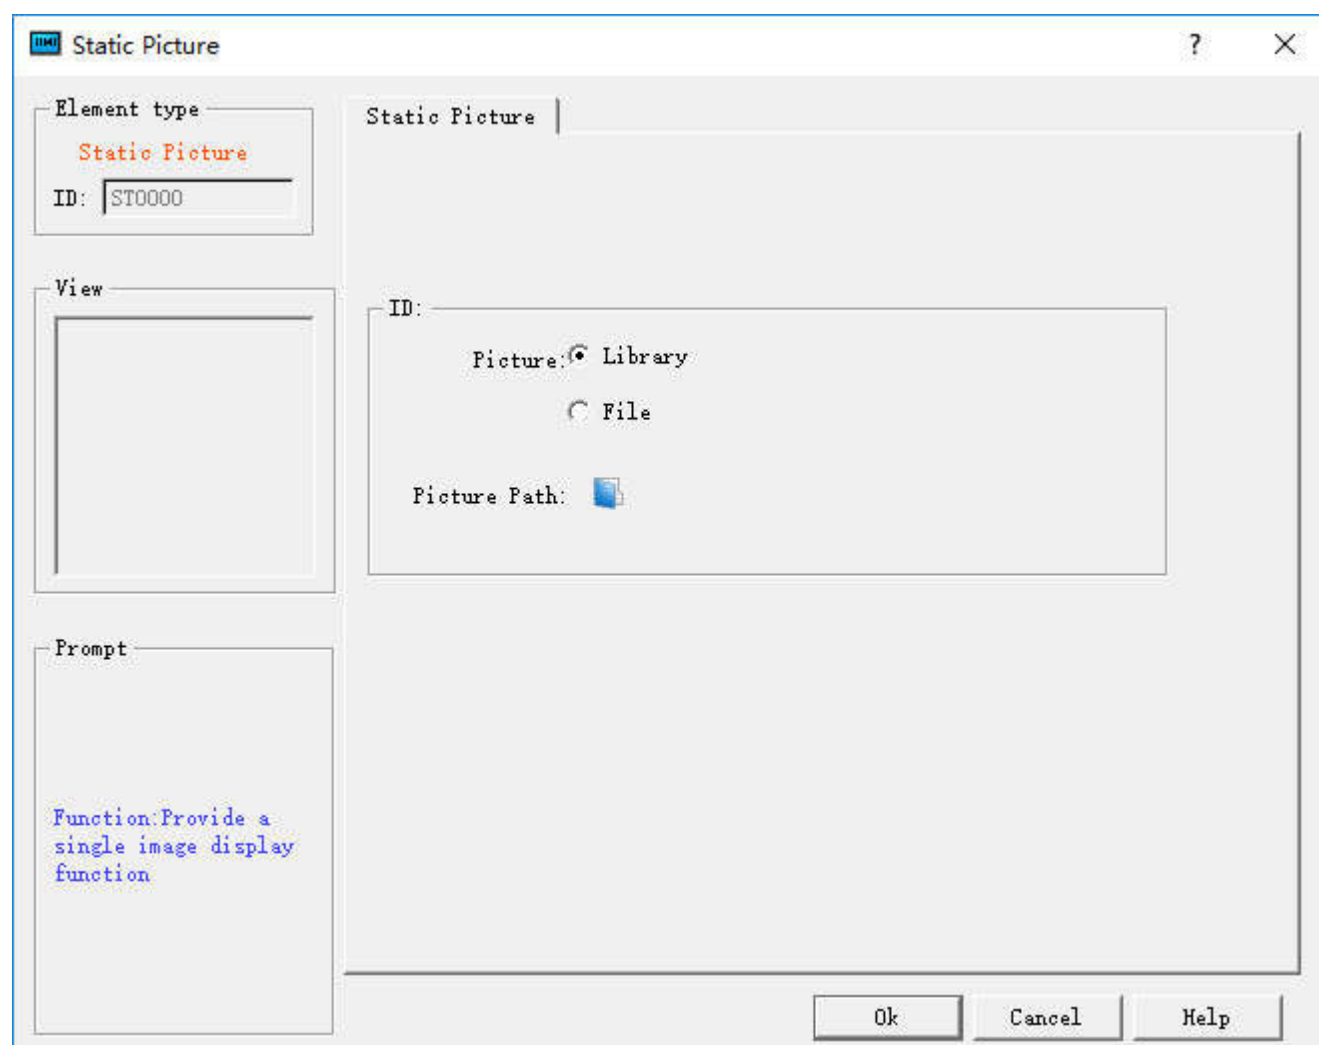

Figure 4-105 Static picture dialog box
1. Click on the static picture icon  on the toolbar to pop up a dialog box as shown in Figure 4-105: